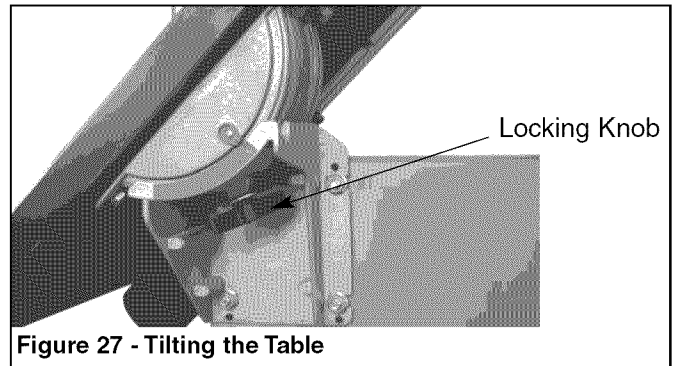

Figure 27 - Tilting the Table
- To tilt the table, loosen the locking knob on the table trunnion, set the table to the required angle and tighten the wing locking knob (see Figure 27).
Refer to Figure 27, page 10.